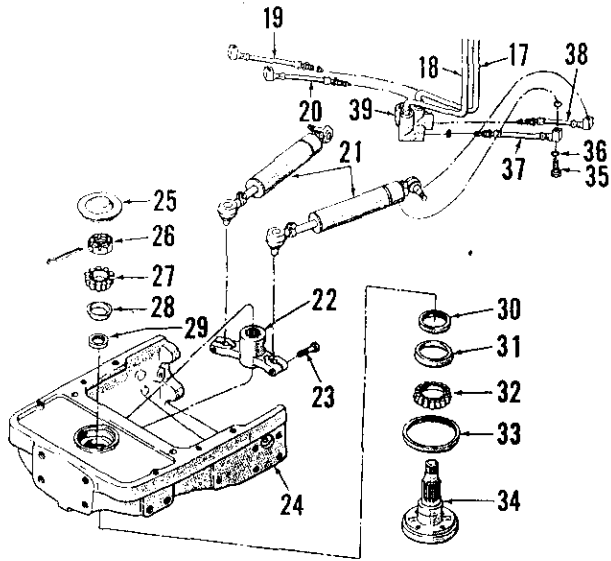

Fig. 43-Exploded view of model 4200 pedestal, steering shaft and steering cylinders. Fluid lines (17 and 18) lead to "Hydramotor" steering unit.
To renew pivot pins and bushings, proceed as follows: Remove steering arm (8) from steering shaft (34—Fig. 43). Support front end of tractor so as to take weight from pivot pins and support front axle radius rod to keep unit from tipping. Remove retainers (1 and 6—Fig. 40) from front pivot pin and remove bolt (15) from rear pivot pin. Remove both pivot pins, raise tractor to clear front axle and roll the unit forward. Remove bushings (2 and 14) and carefully install new bushings. Bushings are final sized and should not require reaming if not distorted during installation. Renew thrust washers (12) and pivot pins if worn and reassemble by reversing removal procedure.
50. Refer to Figs. 41 and 42 for exploded views of the single and dual front spindle assemblies. Either unit can be bolted to the steering shaft (34—Fig. 43). Single wheel spindle must be installed with offset to left side of tractor as shown in Fig. 41 and dual
46. **R&R FRONT AXLE ASSEMBLY.** To remove the wide front axle assembly as a unit, proceed as follows: Straighten tabs of locking plate (7—Fig. 40) and remove the two cap screws retaining center steering arm (8) to steering shaft (34—Fig. 43). Support front of tractor, unbolt the front (4)
51. **R&R FRONT PEDESTAL ASSEMBLY.** First, drain cooling system, then remove engine hood and radiator grille assembly. Disconnect radiator hoses and remove radiator from pedestal. Remove covers from top of pedestal and disconnect power steering lines (17 and 18—Fig. 43) from manifold (39). Support front end of tractor and remove wide front axle assembly as outlined in paragraph 52, or if a tri-cycle model, unbolt and remove the spindle and wheel assembly from steering shaft. Attach a hoist to front support, then unbolt and remove front support from engine cylinder block and oil pan. Note: Be careful not to lose or damage shims, if any, located on front support to oil pan bolts.
Remove the nuts from power cylinder rear end assemblies and bump rear ends of cylinders from front support. Remove the cap screws (23—Fig. 43) clamping cylinder front end assemblies in steering shaft arm (22) and remove cylinder from arm. Unbolt manifold (39) from pedestal and lift out manifold, lines and cylinders as a unit.